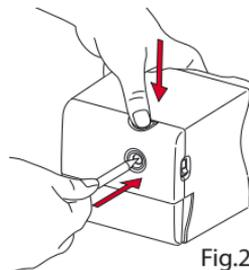

Fig.2
3. Insert the pencil until it is engaged by the mechanism. The motor will start and the pencil will be automatically drawn into the sharpener. (Fig.2)